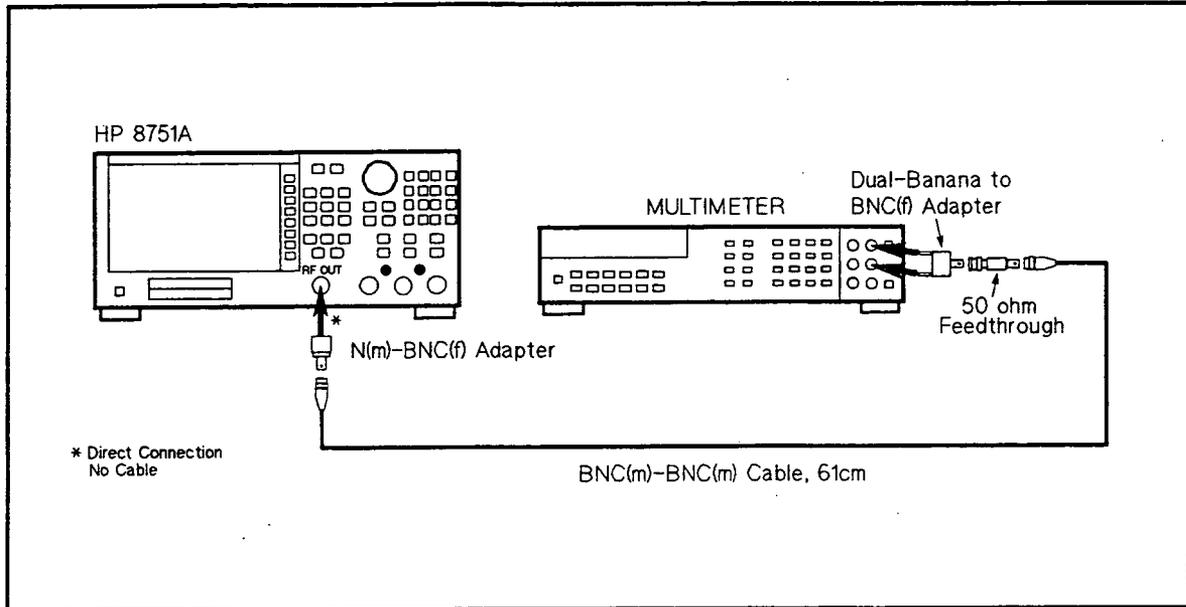

Figure 2-7. Power Sweep Linearity Test Setup
1. Connect the Multimeter as shown in Figure 2-7.